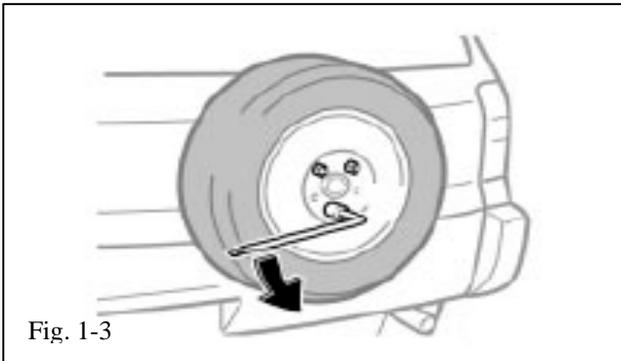

Fig. 1-3
- (f) For FJ Cruiser only, remove OE spare wheel and tire assembly. (Fig. 1-3) Wear safety glasses while removing wheels.